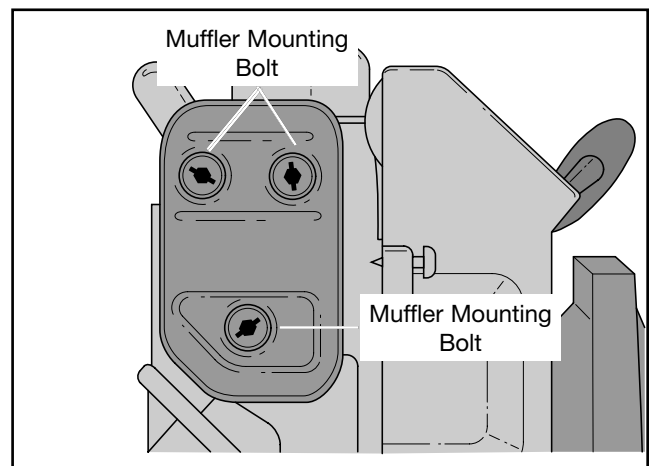

Fig. 42
1. Remove the three (3) muffler mounting bolts from the cylinder (Fig. 42).